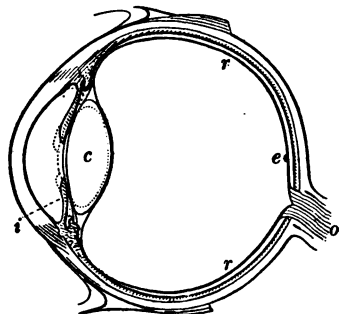

FIG. 167
**236. The Eye.** — This is very much like the camera. Fig. 167 shows a section of the eye, cut across. It consists of a lens for refracting the rays, and a screen on which the images are formed.